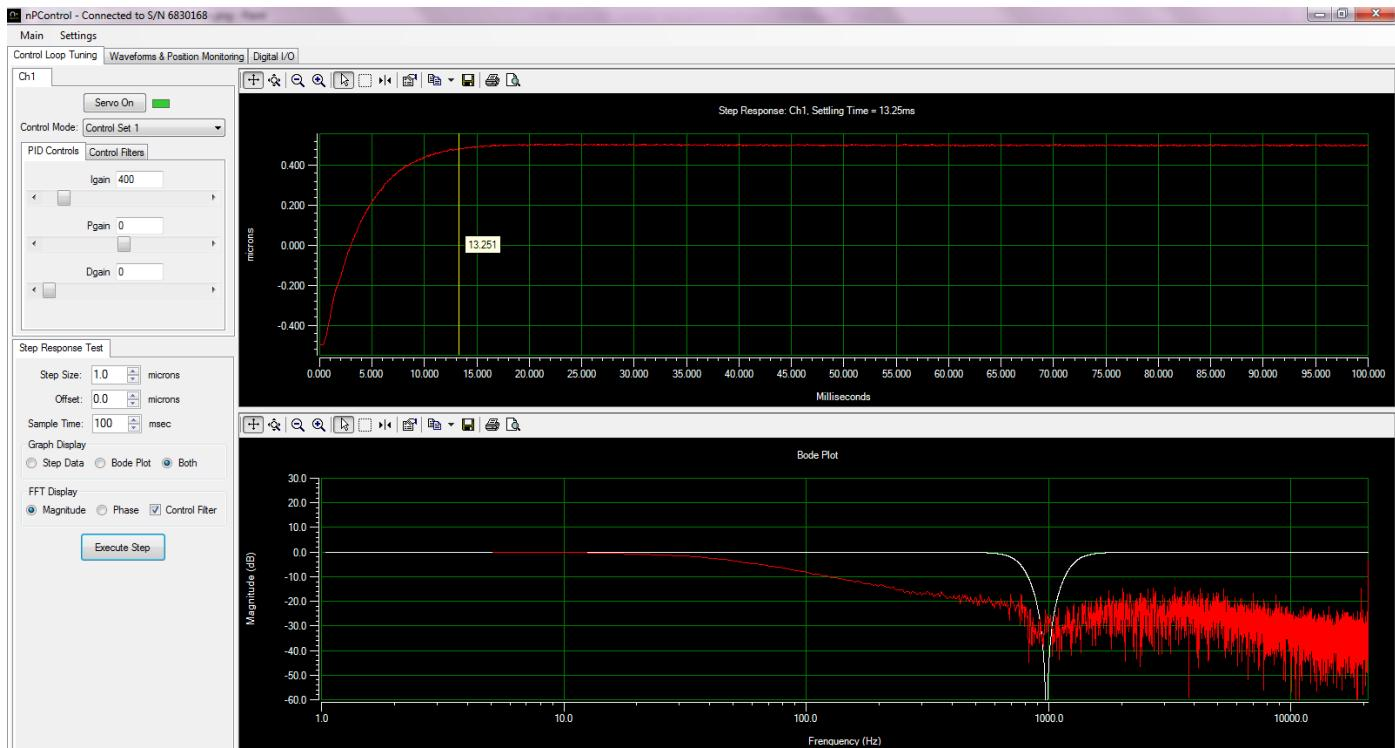

Figure 3-5: Step response of a system in closed-loop with the proper notch filters enabled and an Integral gain equal to 400.
- Execute a step to observe the effects of the control filters, as shown in Figure 3-5.